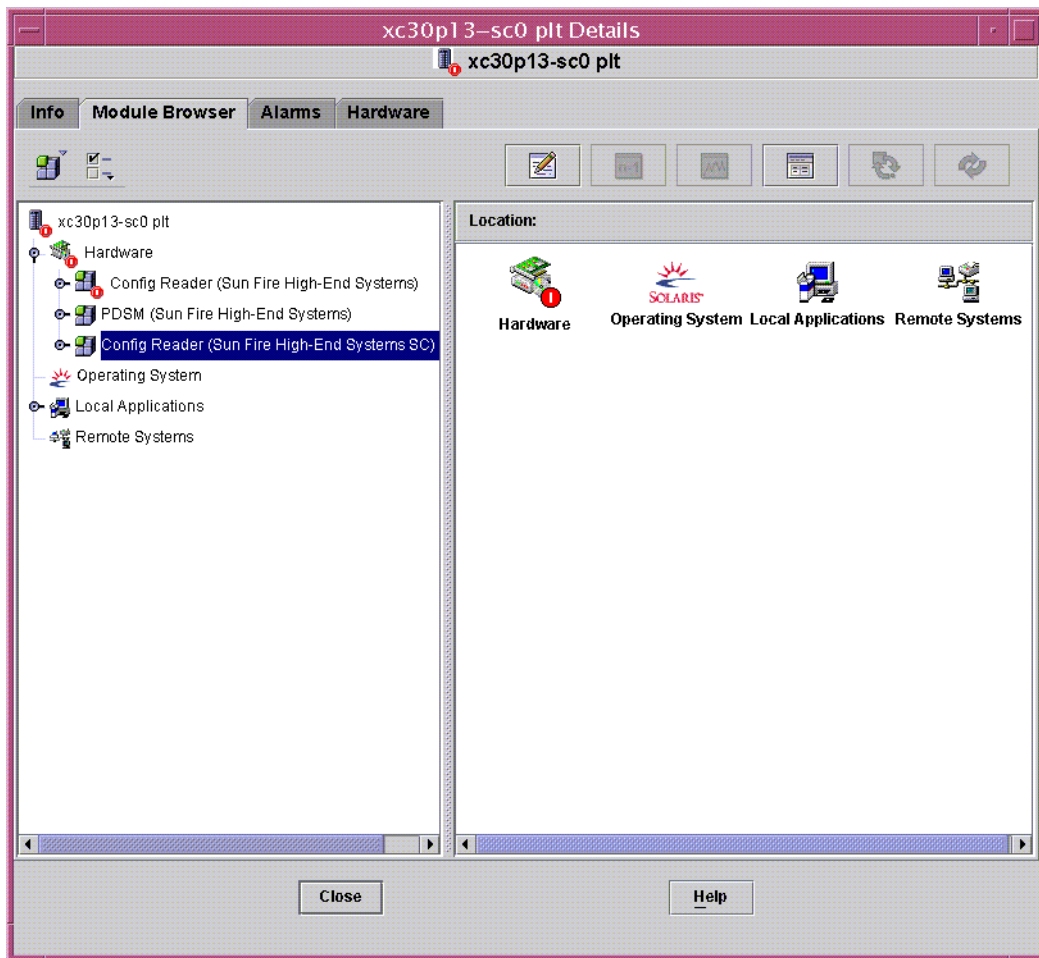

FIGURE 6-3 SC Config Reader Module
FIGURE 6-3 shows the icon for the module—Config-Reader (Sun Fire High-End Systems SC)—as it is displayed in the host (SC) Details window under the Module Browser tab and Hardware icon.